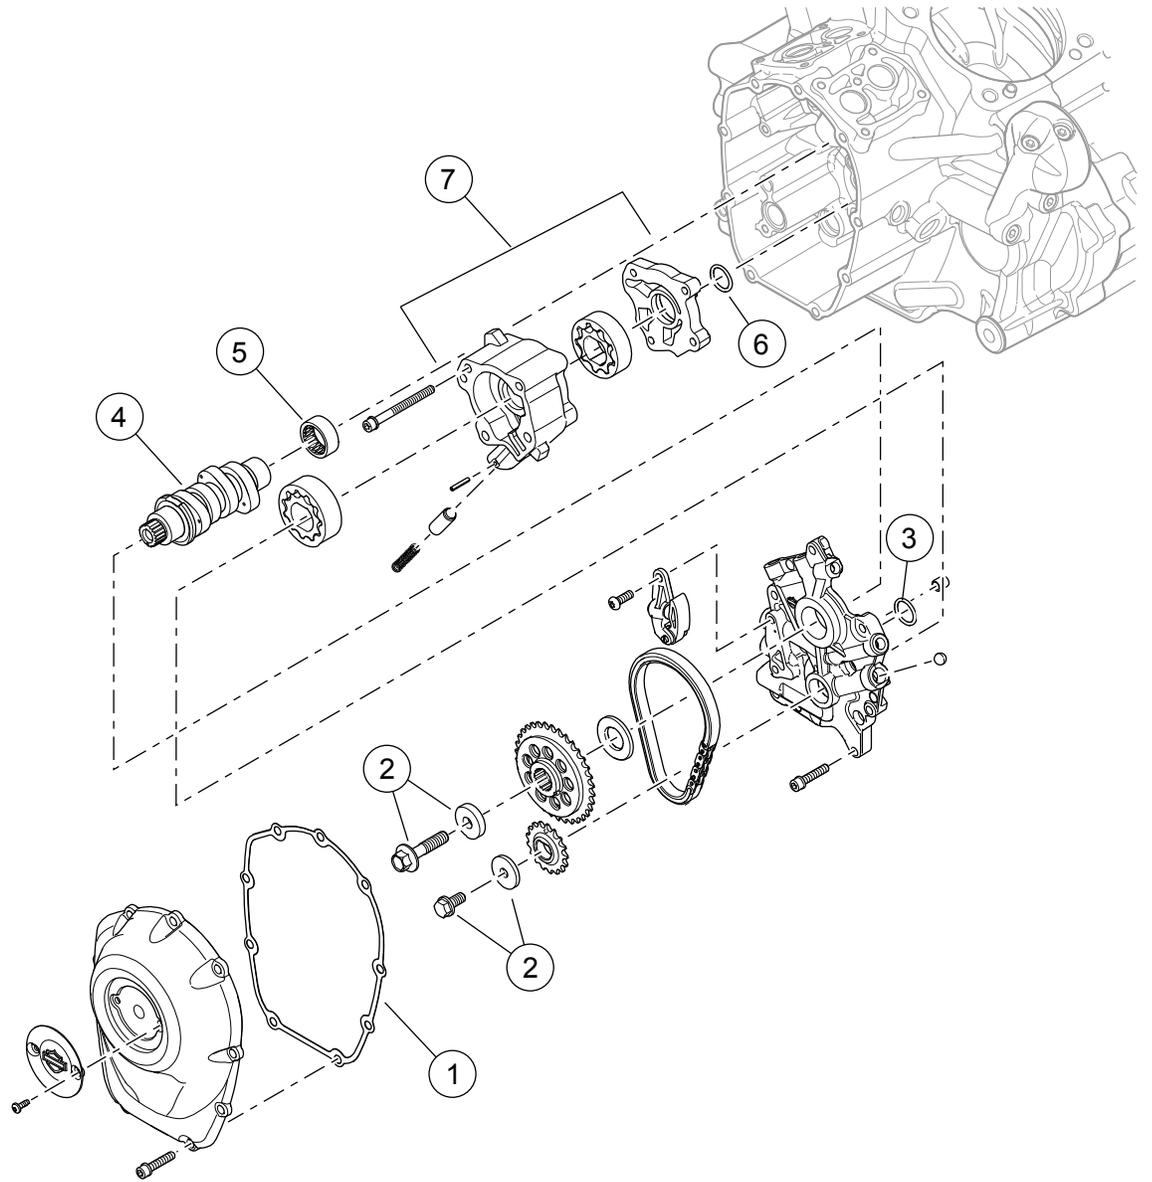

Figure 3. Kit Contents: Cam Compartment: Screamin' Eagle Milwaukee-Eight™ Stage 4 Components
2. Install camshaft needle bearing (5).
3. See Figure 3. Install oil pump.